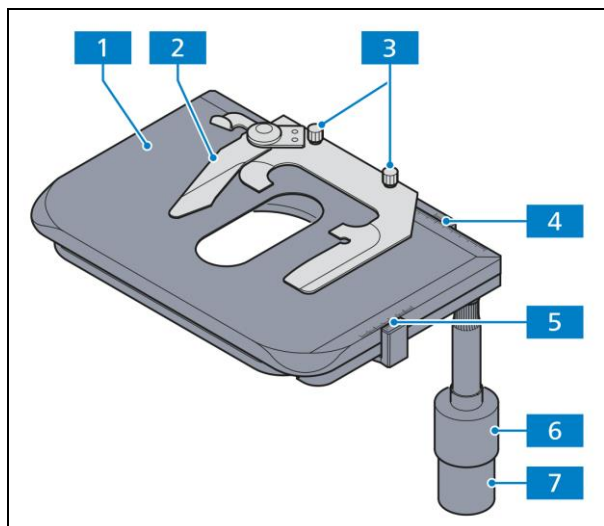

Fig. 2-12 Rackless stage 75x30 R with specimen holder
- Rackless mechanical stage (Fig. 2-12/1) for holding and positioning specimens with a specimen holder.
- Specimen holder (Fig. 2-12/2) for single-handed operation (replaceable after loosening the two knurled screws, Fig. 2-12/3).
- Coaxial knurled knobs for X (Fig. 2-12/7) and Y (Fig. 2-12/6) adjustment on the right-hand side (height and friction adjustable with dedicated tool).
- Vernier scale for display of the adjustment range in X (Fig. 2-12/4) and Y direction (Fig. 2-12/5).